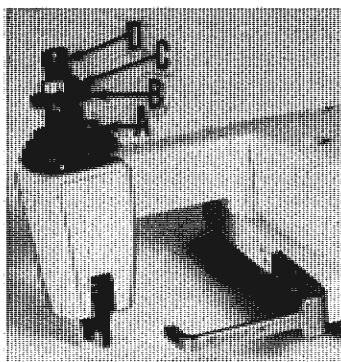

Fig. 2
Sufficient presser foot pressure to feed work uniformly should be maintained. Should it be necessary to increase or decrease amount of pressure on presser foot, loosen lock nut (A, Fig. 2) and turn adjusting screw (B). Adjusting screw has a right hand thread, so tightening increases pressure, loosening decreases pressure. When pressure adjusting screw (B) has been properly set, tighten lock nut (A). With presser foot resting on throat plate, position locking nut (C) so that its under surface is approximately  $1/32$  to  $1/16$  inch (.79 mm to 1.59 mm) from the top surface of adjusting screw (B). Set cap (D) against locking nut (C).